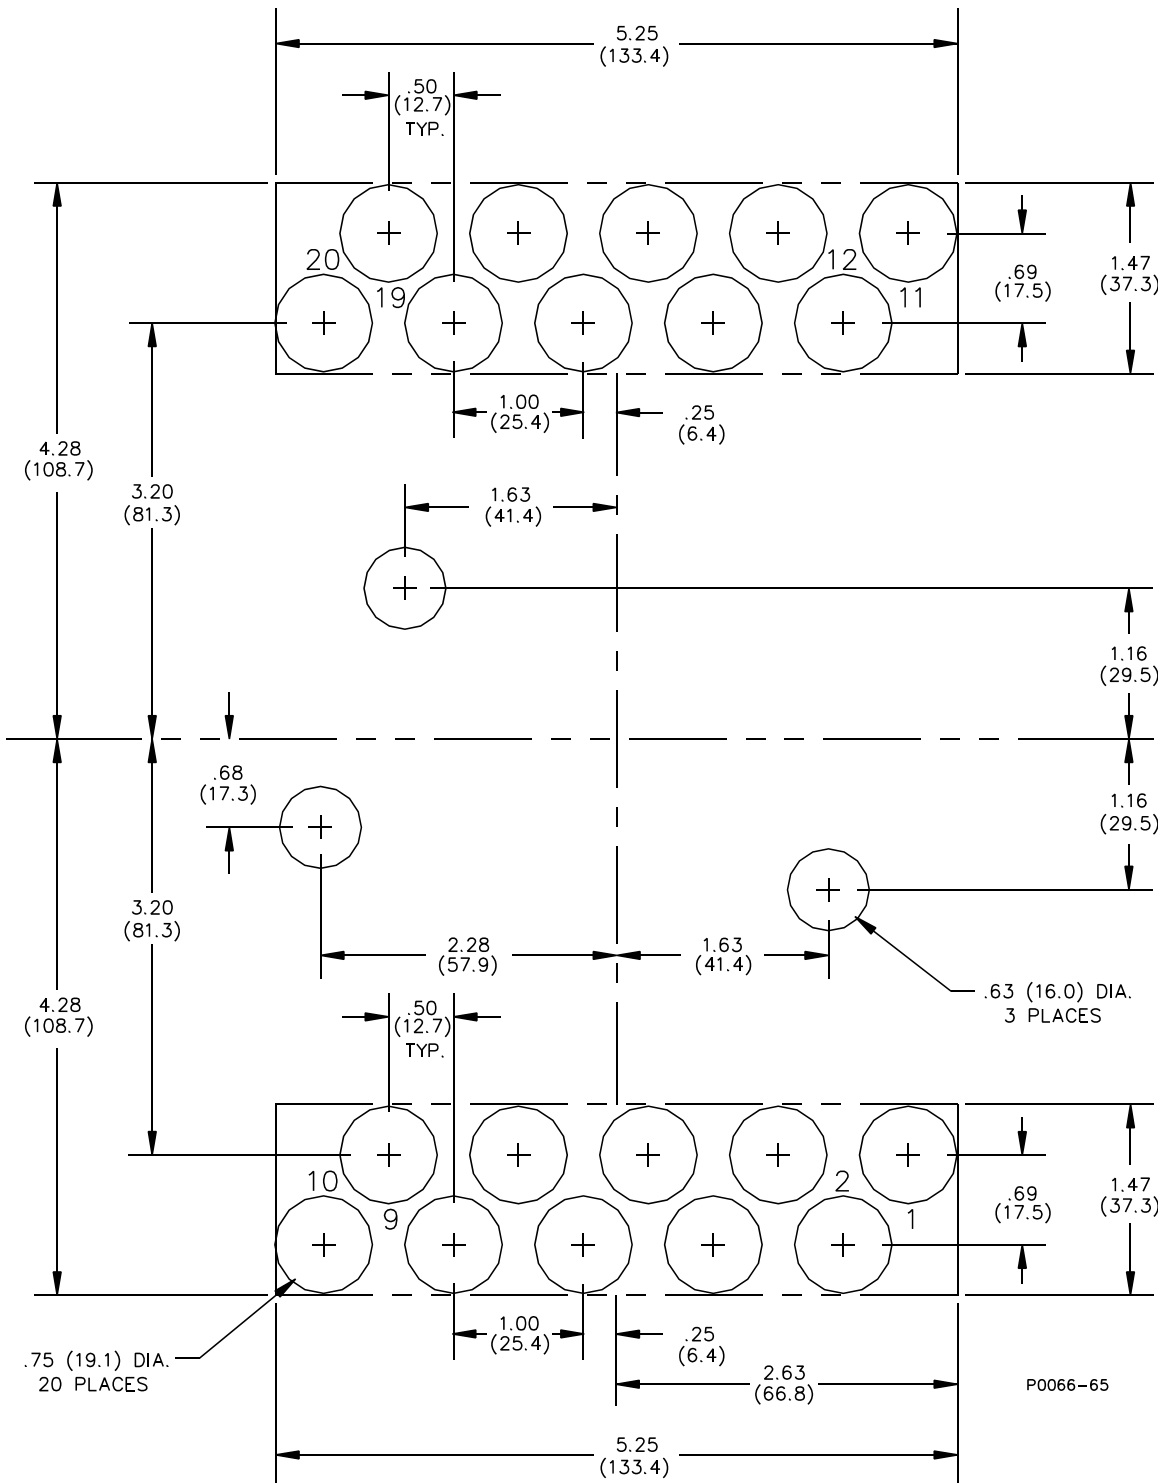

Figure 4-6. Panel Cutting/Drilling, Double Ended, Projection Mount, S1 Case
- Figure 4-6: Panel Cutting/Drilling, Double Ended, Projection Mount, S1 Case